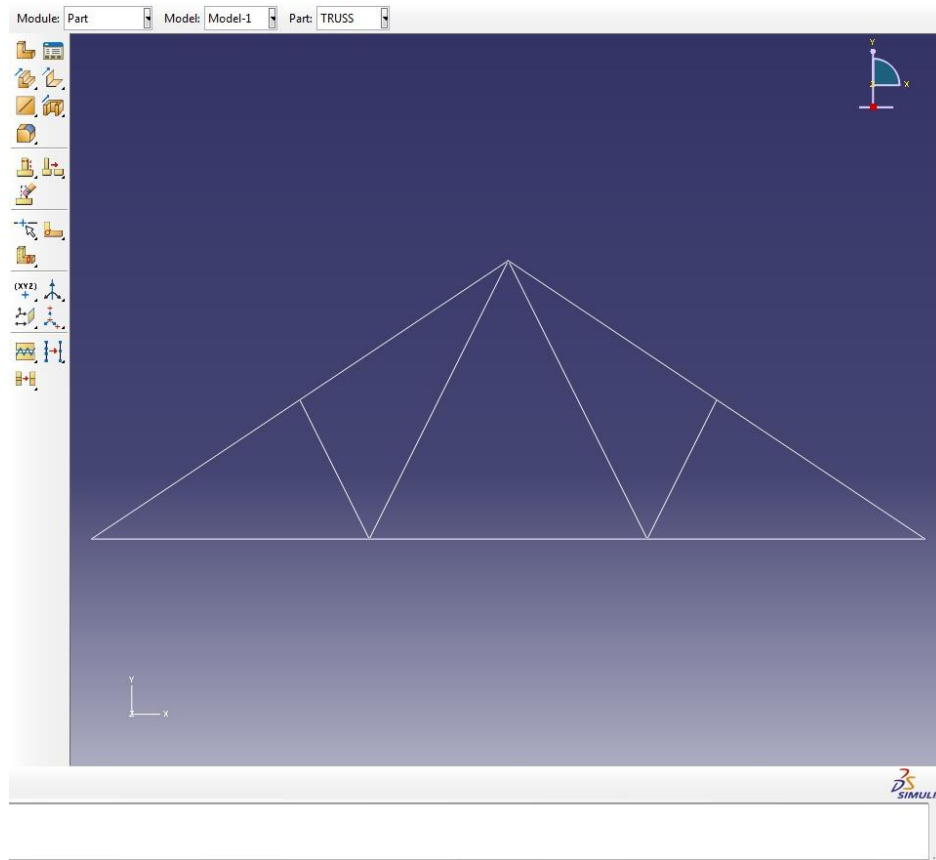

Figure 5. Final Model Geometry
- Sketch mode will automatically be exited, and the model geometry should look identical to the truss shown in Figure 5.